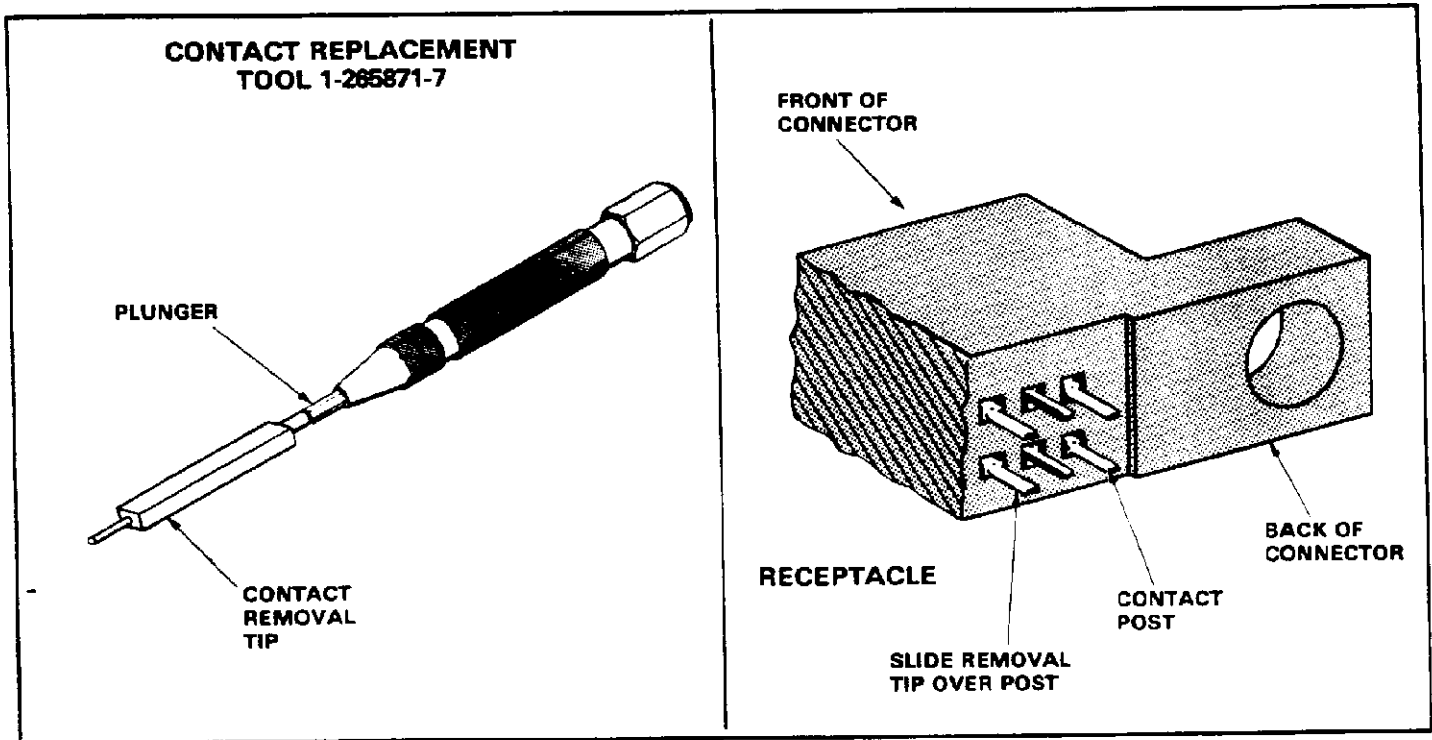

Fig. 17
**E. Extracting .022 x .027 Double-Latch Posted Contacts from Receptacle Assemblies (Figure 17)**